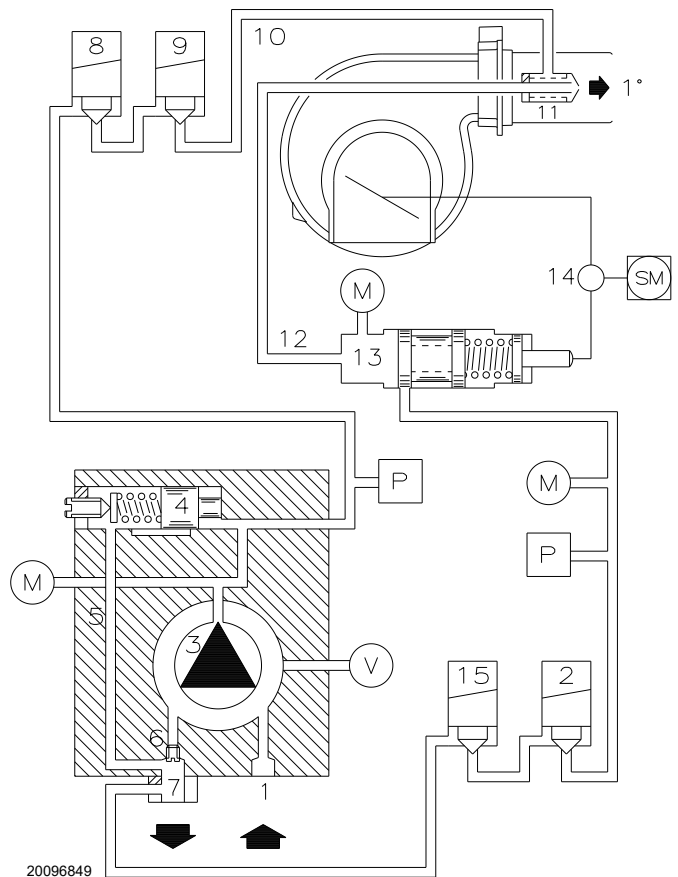

Fig. 30
They are installed on the burner with the by-pass closed by screw 6)(Fig. 30).
- The pump 3)(Fig. 30) draws fuel from the tank through the pipe 1) and pushes it under pressure to the outlet.
Key (Fig. 30)